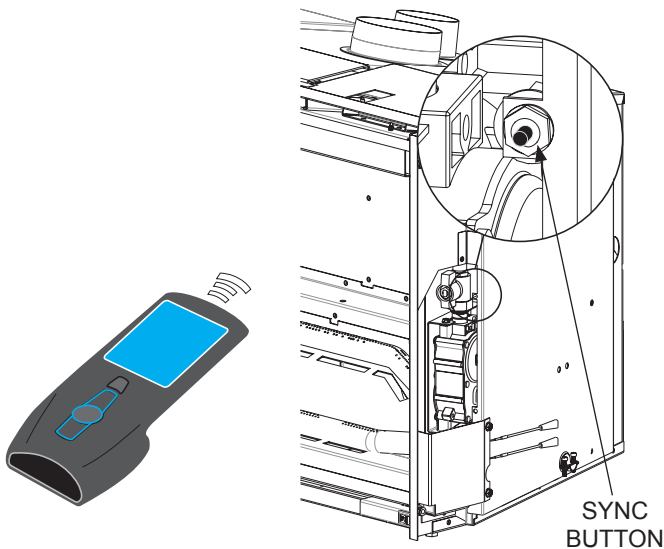

Figure 5
2. Push the sync button to the right of the insert. **See Figure 5.**